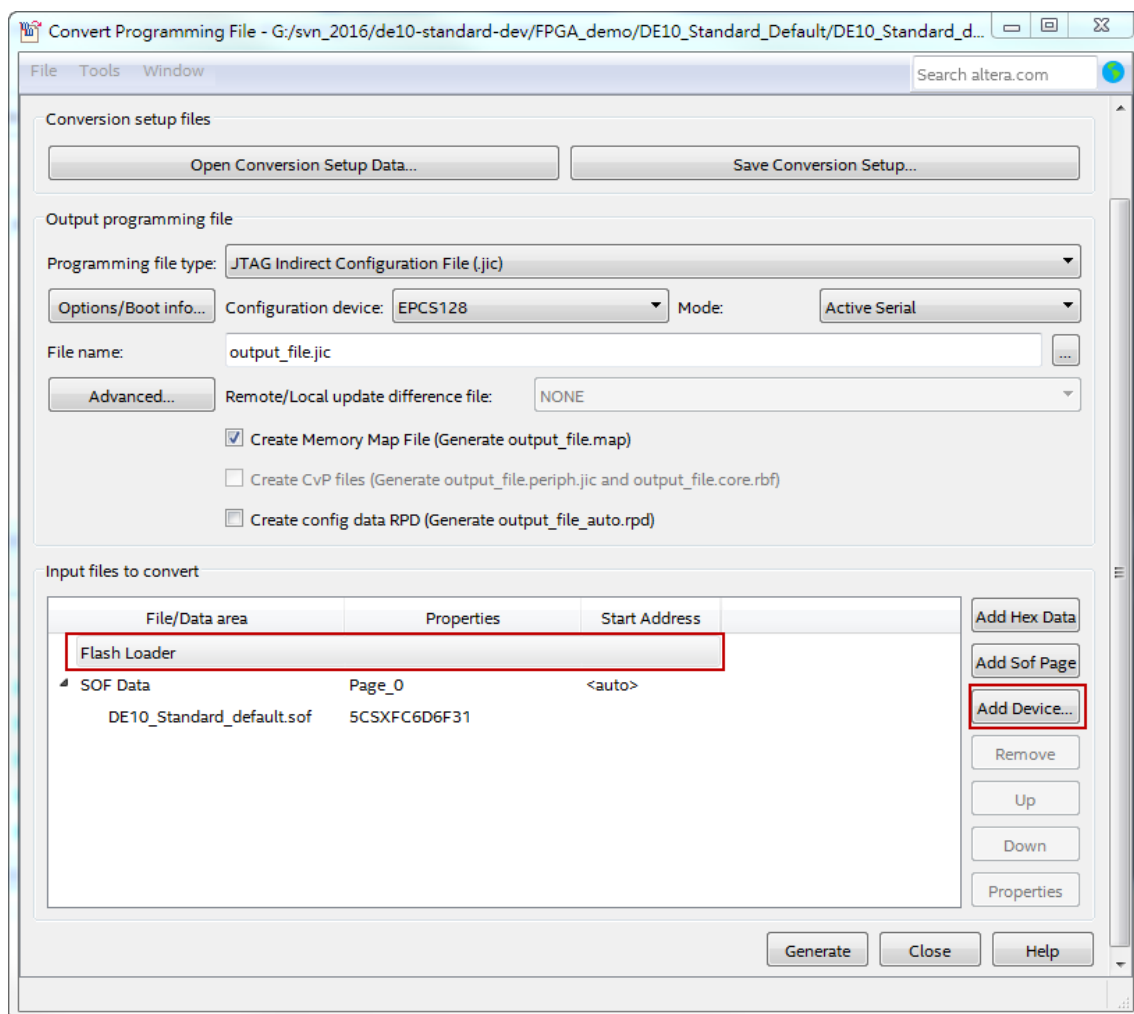

Figure 8-3 Click on the “Flash Loader”
10. Click on the **Flash Loader** and click **Add Device**, as shown in Figure 8-3.